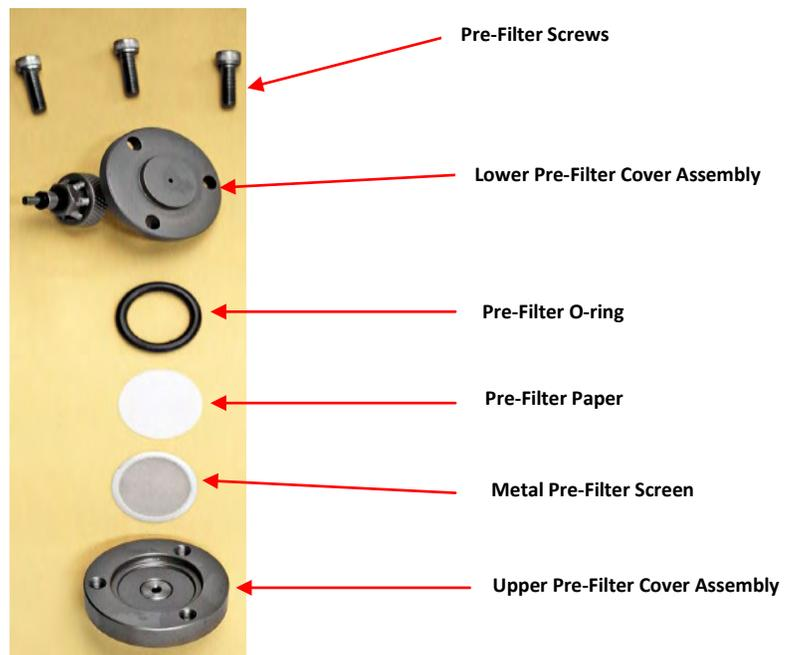

Figure G2 – Pre-Filter Assembly
5. Assemble the pre-filter with screen and filter paper (figure G2).